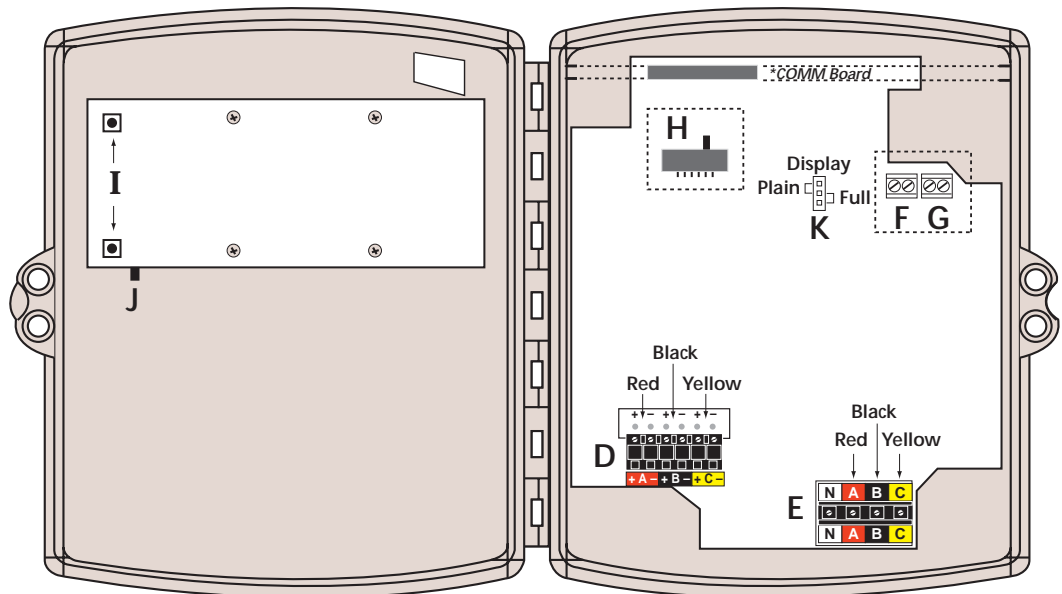

Figure 3: Color match CTs and voltage leads
9. For the Extended Range model: To connect the energy consumption pulse output to a control/data acquisition system (DAQ), wire the pulse output (shown in Figure 3) to the controller. Output is an electronic N.O. "contact closure" rated for 24V AC/DC @ 100mA maximum. Ensure that
10. For the Extended Range model: To connect the phase loss output to control/data acquisition system, wire the phase loss output (shown in Figure 3) to the controller/DAQ system. Output is an electronic N.C. "contact closure" rated for 24V ac/dc @ 100mA. maximum. Ensure that installation method and insulation ratings comply with local and National Electrical Codes.